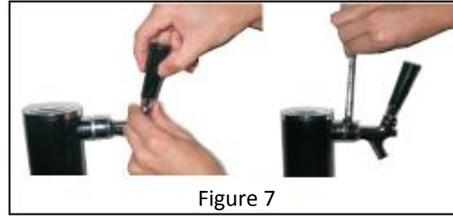

Figure 7
d) Place the CO₂ tank and CO₂ regulator valve component into the cabinet and fix the CO₂ tank with tank bracket and bolt (See Figure 7).
Screw the tap handle clockwise into the beer tap to make a firm connection. Then connect the tap to the beer tower components and tighten with a wrench (See Figure 7).